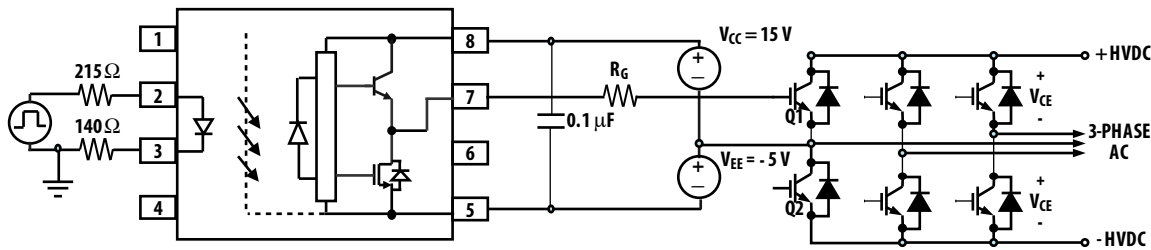

Figure 24. ACNT-H313 typical application circuit
Step 1: Calculate R_g minimum from the I_{OL} peak specification. The IGBT and R_g in Figure 24 can be analyzed as a simple RC circuit with a voltage supplied by the ACNT-H313.
For the circuit in Figure 24 with I_F (worst case) = 12 mA, $R_g = 8 \Omega$, Max Duty Cycle = 80%, $Q_g = 500$ nC, $f = 20$ kHz and $T_A \text{ max} = 85^\circ\text{C}$: